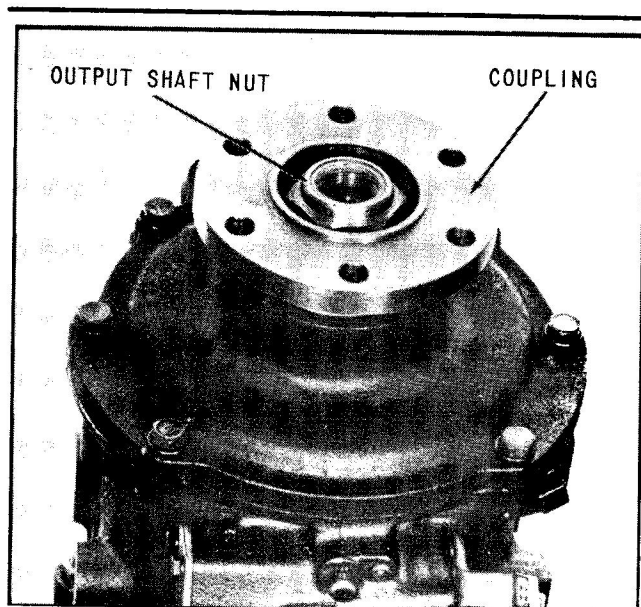

Fig. 44 Assemble Coupling and Nut
8. Assemble coupling and output shaft nut, (Fig. 44) and remove the tool from front of transmission case, (Fig. 24).